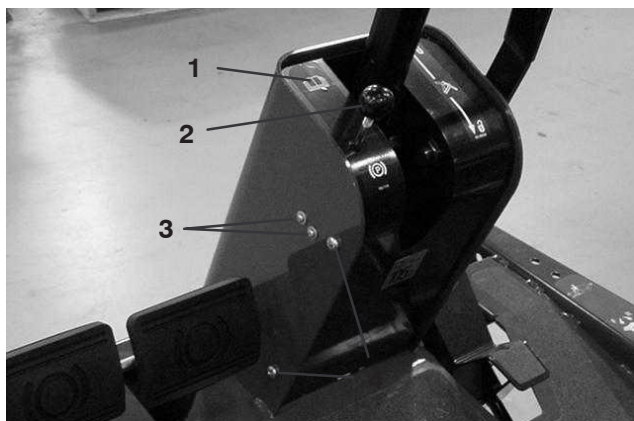

Figure 44
2. Remove knob from parking brake rod and screws from steering tower cover (Fig. 44).
4. Loosen screws and nuts securing parking brake switch to left side of steering tower (Fig. 44).